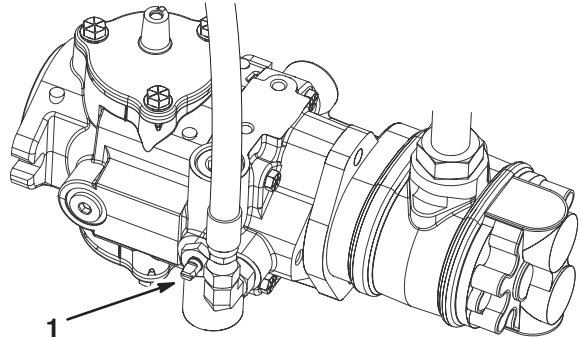

Figure 40
1. Locate the bypass valve on the pump and rotate it so that the slot is vertical (Fig. 40).
2. Before starting the engine, close the bypass valve by rotating it so that the slot is horizontal (Fig. 40). Do not start the engine when the valve is open.